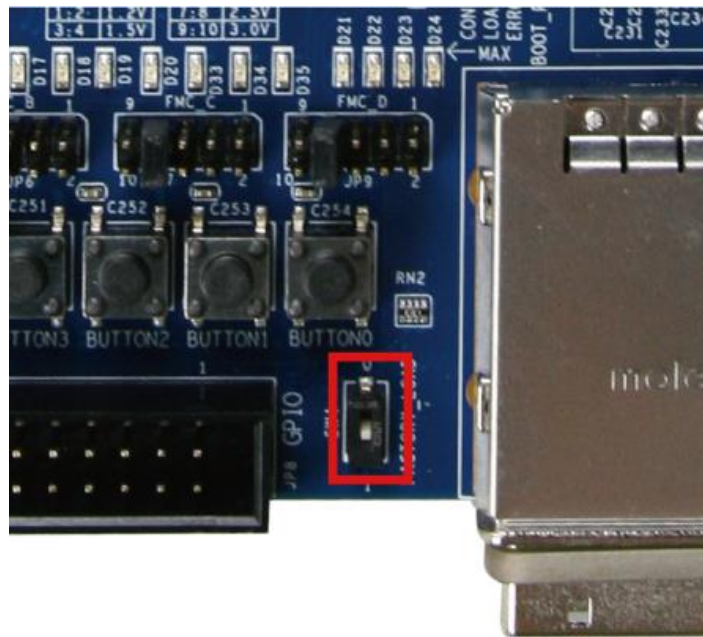

Figure 4-2 Configuration Image Selection
3. Specify the configuration of the FPGA using the default Factory Configuration or User Configuration by setting **SW4** according to **Figure 4-2**.